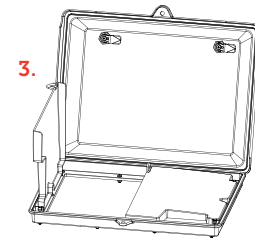

FIG:2
5. Ensure smooth opening and closing of assembled top cover (Fig: 2).
3. Apply hand pressure to push in the snap portion of the inner-door to lock onto the base at two places (Fig: 2).